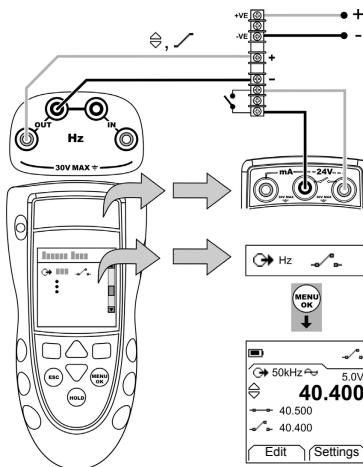

Figure 6: Example configuration - Switch test
1. Connect the instrument (Figure 6) and, if necessary, adjust the Set Up (Table 1).